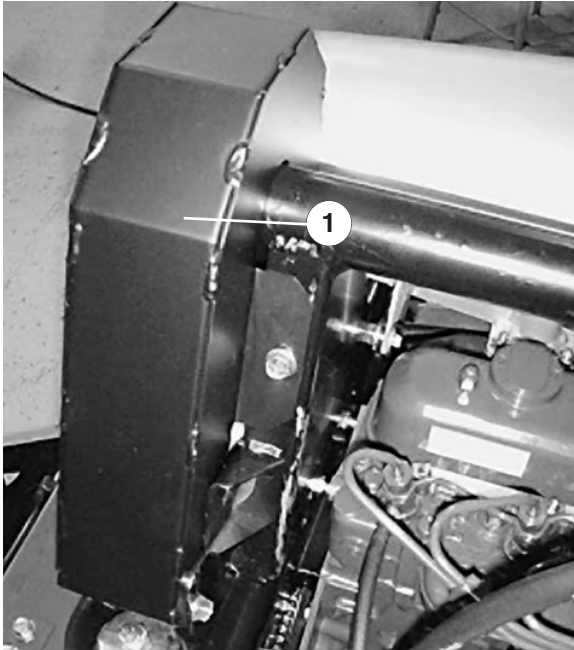

**Figure 33**
- Proper tension will allow  $\frac{3}{8}$  in. (10 mm) deflection when a force of 10 lbs. is applied on the belt (Fig. 33) midway between the pulleys.
4. Loosen the locknut securing the adjustable idler pulley (Fig. 33). Push the idler pulley against the
belt until proper deflection is achieved, then tighten the idler pulley locknut (Fig. 33).